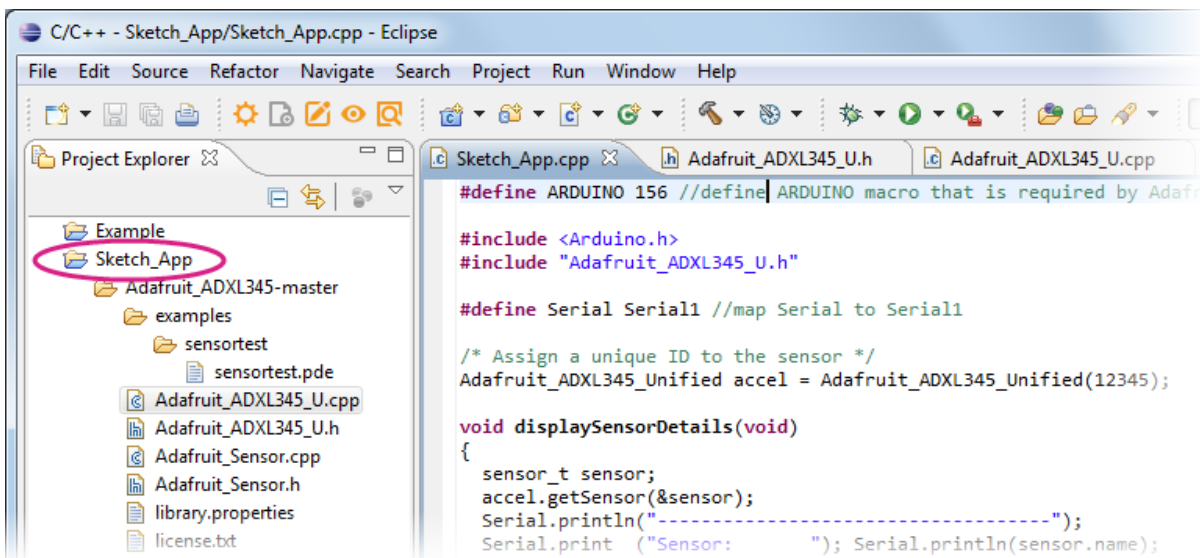

Figure 57 Importing peripheral drivers
- a) Open **Windows Explorer** and copy your Arduino driver library into the **Sketch\_App** folder of the imported project's workspace, such as `\workspace\Sketch_App`. In **Project Explorer** open the shortcut menu on **Sketch\_App** and click **Refresh** to update the project. Figure 57 shows an example of an ADXL345 driver being imported.